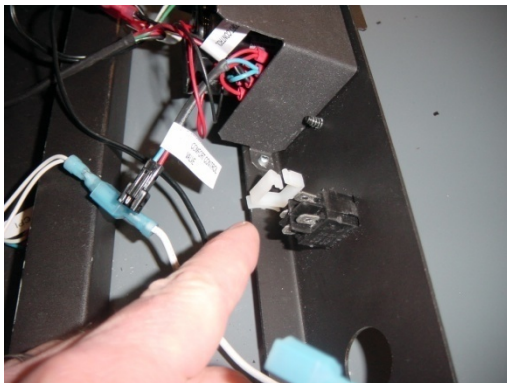
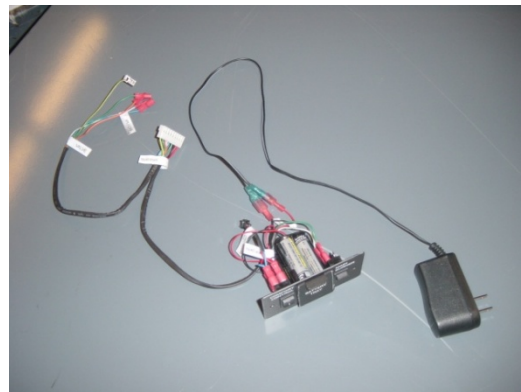

Figure 11
Figure 12
- 8 The control panel may have plastic wire-locks attached to the back (see Figure 11). Un-hook the wires from the wire-locks and remove the wiring harness, plate, battery holder, and ac adapter (see Figure 12). These items may be discarded (keep the batteries for the receiver).